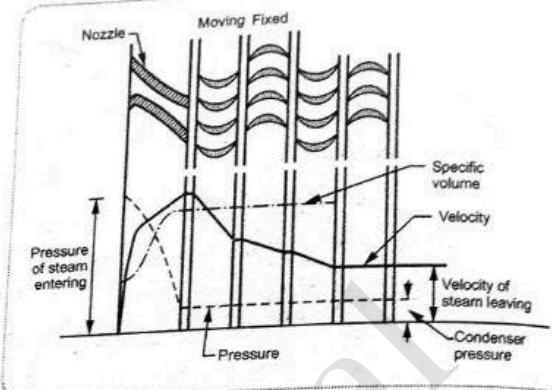

Fig. 4.7 : Velocity compounded impulse turbine
- Fig. 4.7 shows the velocity compounding arrangement in which velocity is decreased gradually over the set of moving and fixed blades.